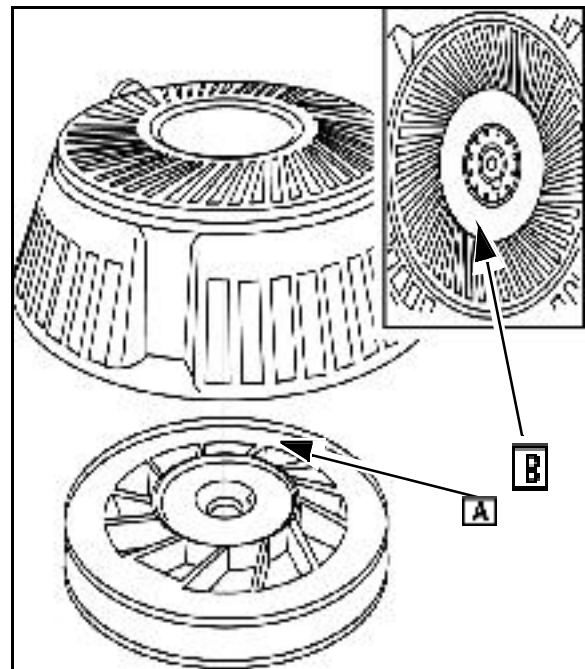

Fig. 17
2. Note location of inner spring tab (A) and location of inner spring anchor ([B] Fig. 17) on center post of starter housing.